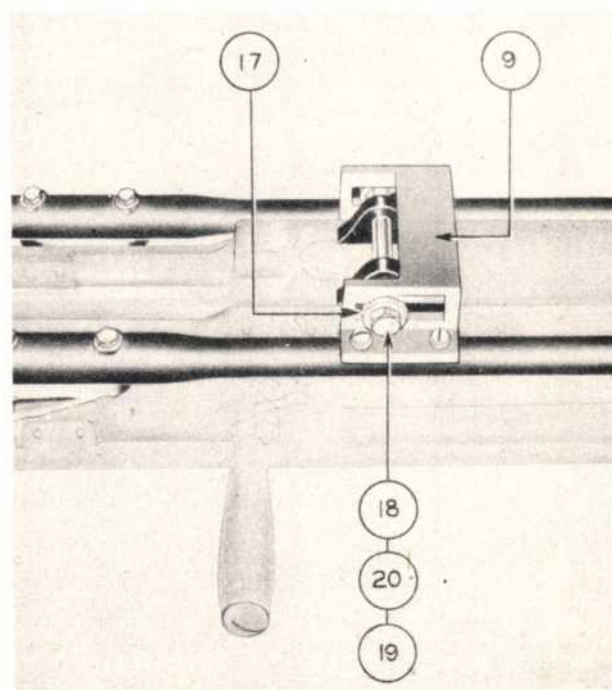

Figure 10—Assembling Rear Trunnion Bolt
- e. Invert the adapter and place it on the gun, keeping rear trunnion slides (17, figure 10) in place.
- g. Assemble rear trunnion bolt (18), nut (19), and cotter pin (20). (See figure 10).
- d. Check rear trunnion bolt (18), rear trunnion slide (17) and rear trunnion support. (See figure 10.) If any of component parts are damaged, make necessary repairs.